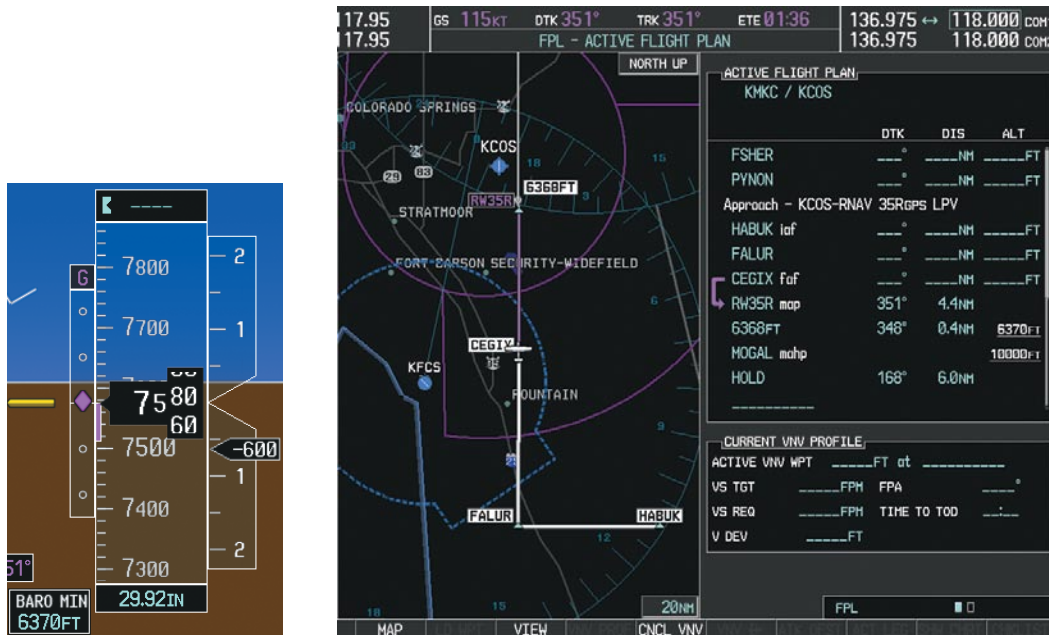

Figure 5-138 Descending to the Missed Approach Point
- 24) After crossing CEGIX, the aircraft continues following the glidepath to maintain the descent to “AT or ABOVE” 6,370 feet at the Missed Approach Point (MAP) (RW35R) as seen in Figure 5-138.